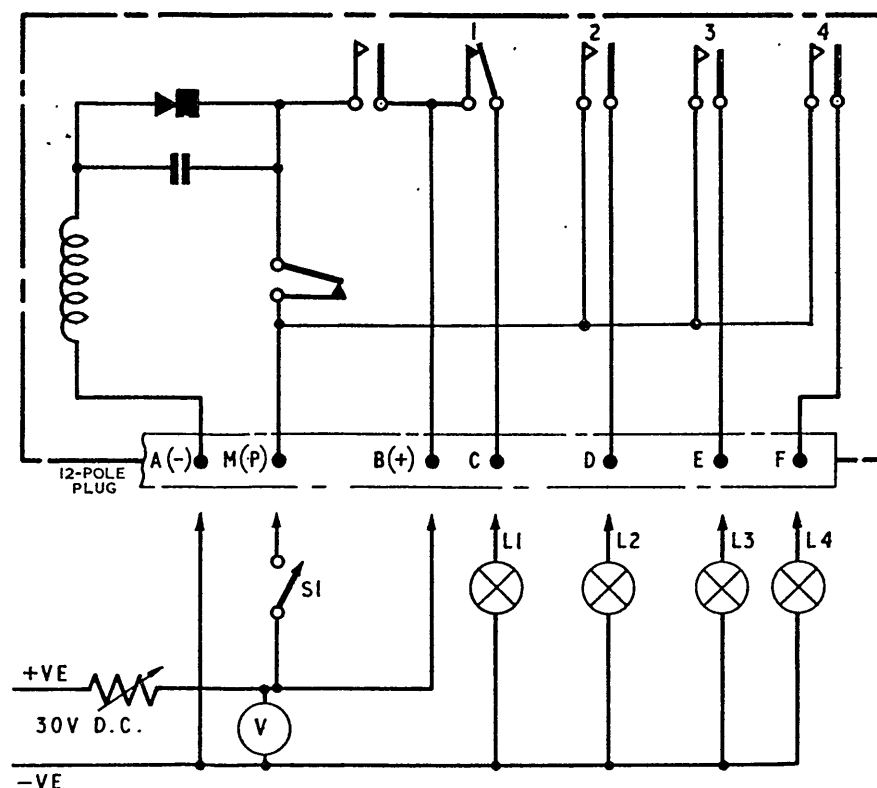

Fig. 1. Switch, Type D8153, circuit diagram and test circuit
1. This time delay switch has two pairs of circuit contacts, the circuit diagram (fig. 1) shows the switch internal wiring and the associated test circuit. The total motor run and circuit contact timing is detailed in para. 3.